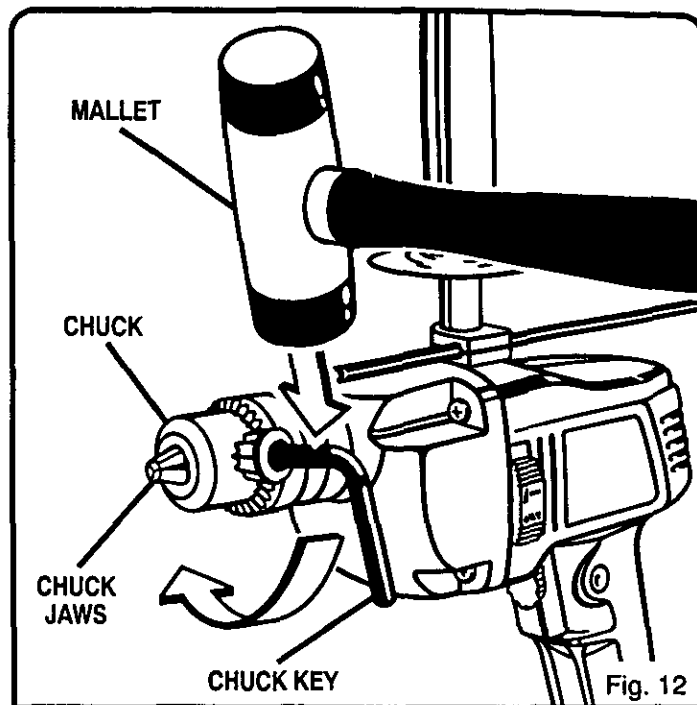

Fig. 12
See Figures 12, 13, and 14.
- Close chuck jaws. Insert chuck key into chuck and tap sharply with a mallet in a clockwise direction. See figure 12. This will loosen chuck screw for removal.